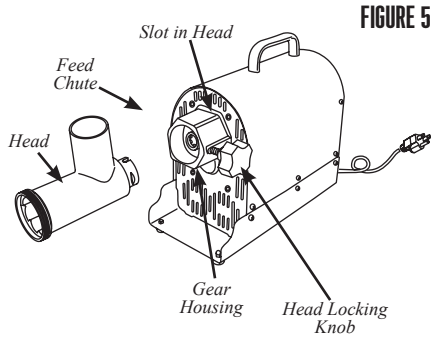

FIGURE 5
1. Insert the Head into the Gear Housing with the feed chute of the Head facing straight up. You will need to line up the slot in the Head with the Pin inside the Gear Housing. Be sure the Head is seated fully into the Gear Housing. (FIGURE 5)